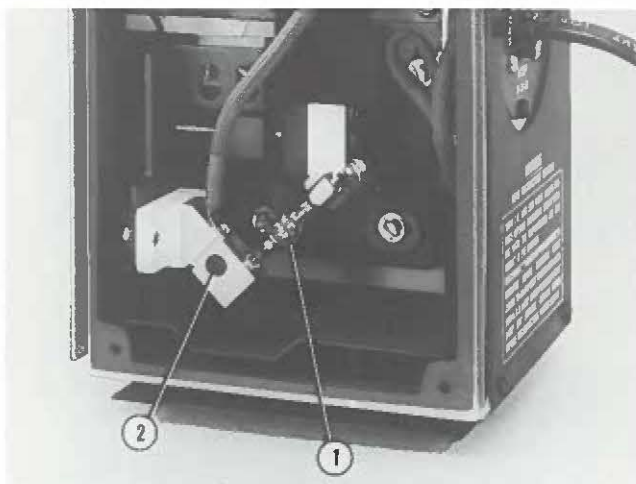

FIGURE 3-4 HBO MERCURY LAMP IN LAMPHOUSE
3.1.5 Loosen the locking screw (Figure 3-4) using the 7/64-inch hexagonal wrench supplied. Insert the lamp in the lampholder (Figure 3-4), taking care that the end with the L1/L2 designation extends upward and the seal-off tip is toward the back of the lamphouse.